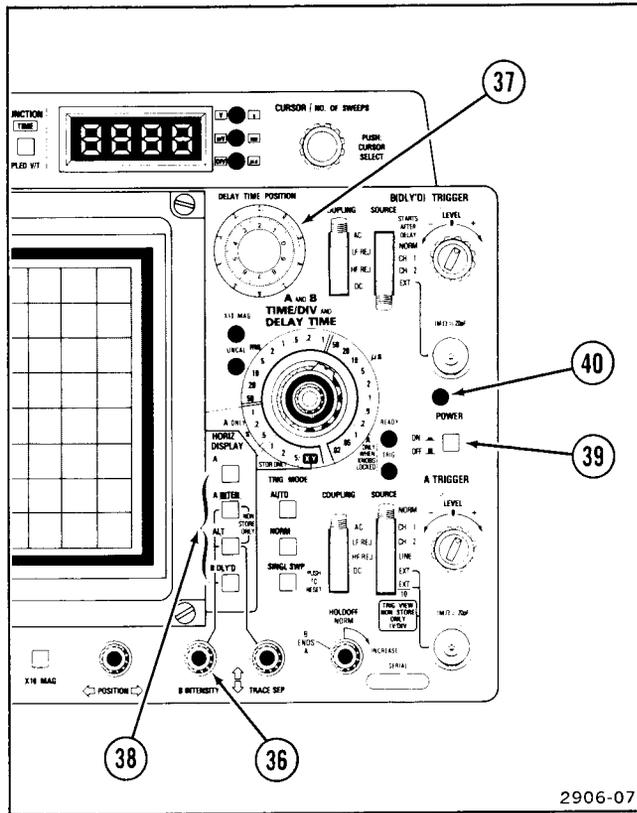

Figure 7. Horizontal display, B INTENSITY, DELAY TIME POSITION, and power controls and indicator.
Refer to Figure 7 for location of items 36 through 40.